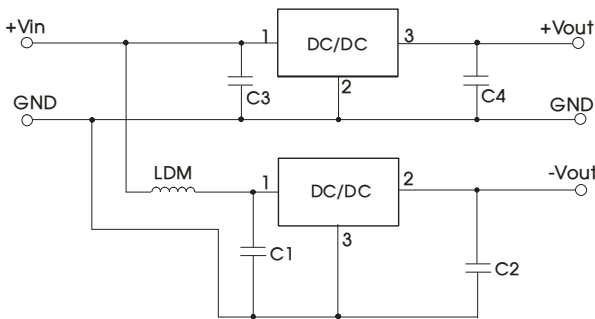

Fig. 3 Positive and Negative output application circuit
4. When using configurations as shown in figure 3, we recommended to add an inductor (LDM) with a value of up to 10μH which helps reducing mutual interference.